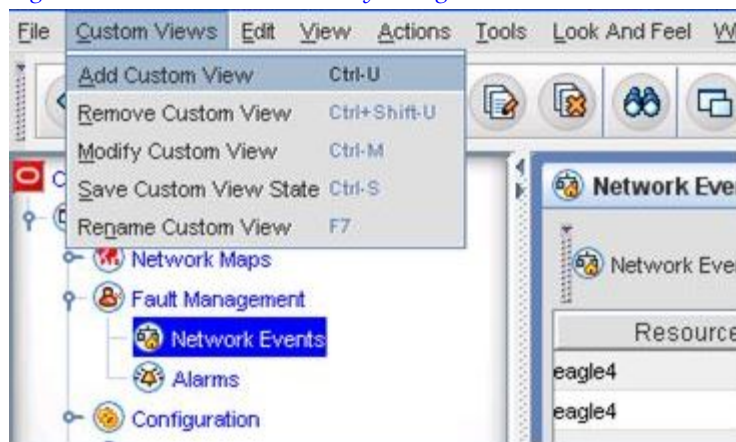

Figure 117: Add Custom View By Using Menu Bar
- From the **Custom Views** menu in the top menu bar, choose **Add Custom View** as shown in Figure 117: Add Custom View By Using Menu Bar.